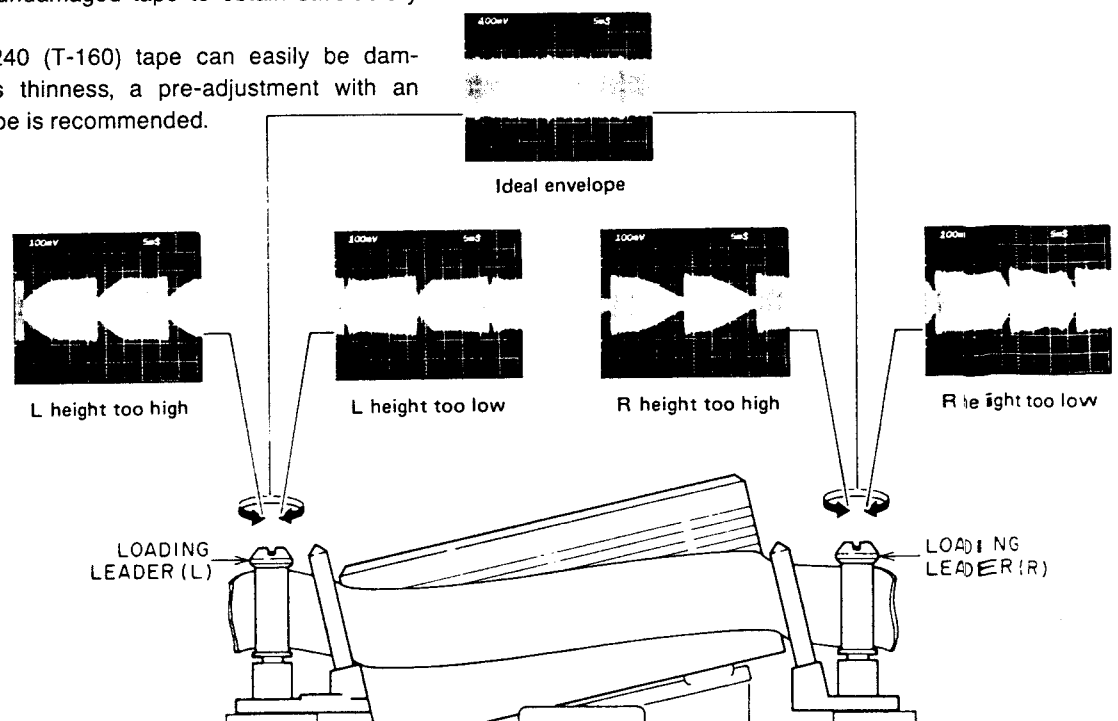

Fig. 4-13
- 4) Turn the LOADING LEADER heads with a flat head (—) screw driver to obtain flat RF envelope as ideal envelope as shown in Fig. 4-13.